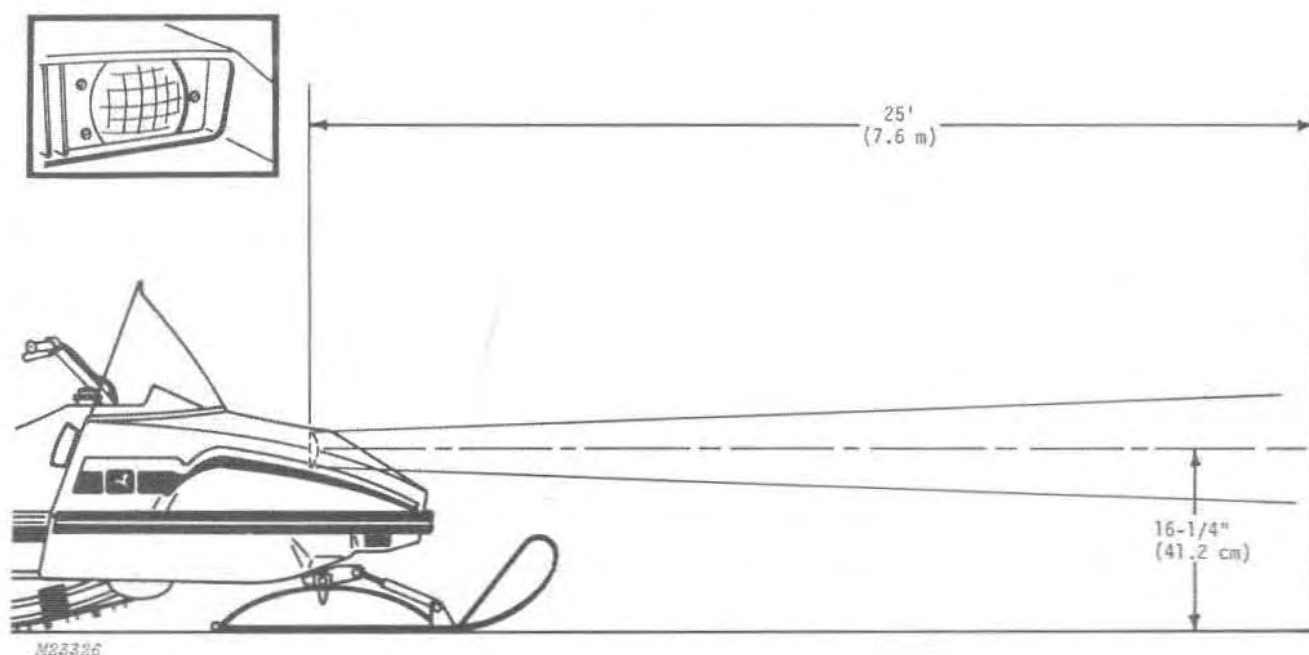

Fig. 8-Adjusting Headlight
2. With operator on seat and headlight on "HIGH" beam, light beam center line should be straight ahead and 16-1/4 inches (41.2 cm) above ground level, Fig. 8.